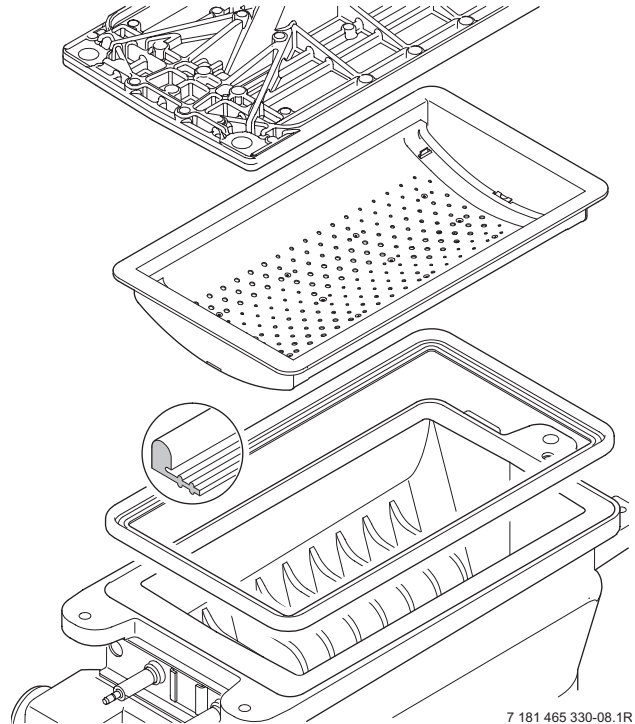

Fig. 57
- ▶ Remove the burner skin and clean components. Do not use a wire brush. Refer to fig. 57.